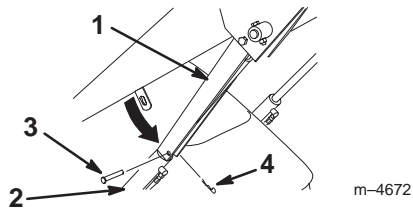

Figure 15
4. Remove the hairpin cotter and clevis pin securing the cylinder lock to the loader arm (Fig. 15)
5. Lower the cylinder lock over the cylinder rod and secure it with the clevis pin and hairpin cotter (Fig. 15).
5. Rotate the cylinder lock up to the loader arm and secure it with the clevis pin and hairpin cotter (Fig. 15).